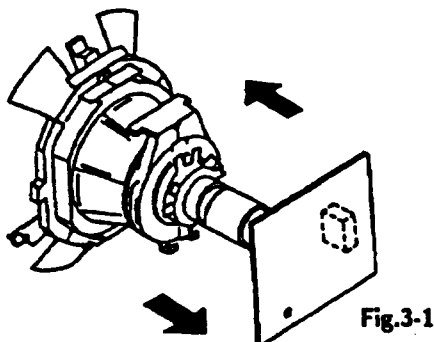

Fig.3-1
(See Figures 3-1 through 3-3.)
4. Move the deflection yoke forward and adjust so that entire screen is red. (See Figure 3-1.)